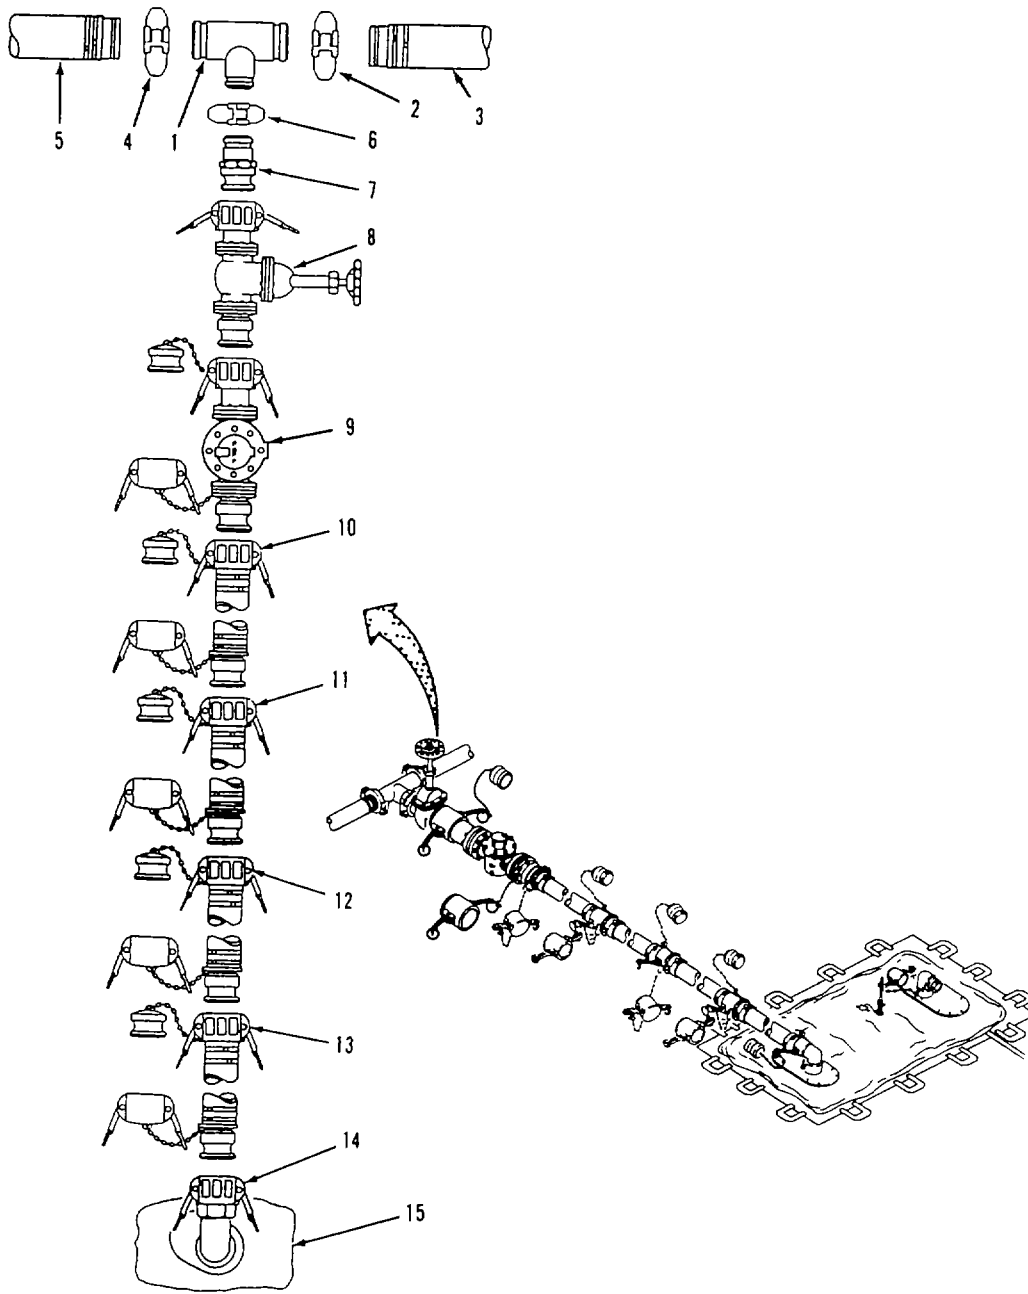

Figure 2-28. Storage Assembly Installation
1. Assemble Storage Assembly Refer to figure 2-28.